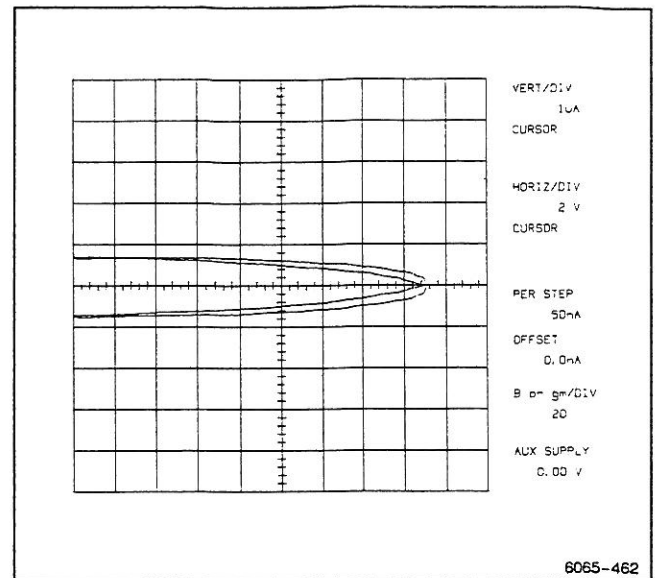

Figure 4-6. Looping compensation display.
- EXAMINE** the displayed trace for optimum overlay of the two loops (see Figure 4-6). If the overlay is not optimum, the following adjustment is necessary.